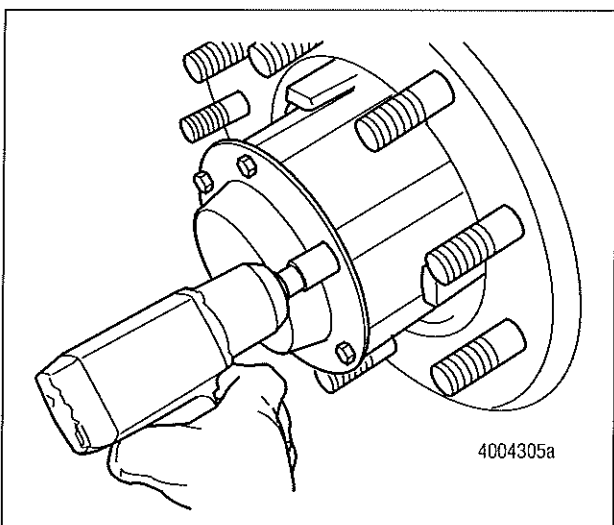

Figure 4
6. Remove the hubcap and hubcap gasket. Figure 4.